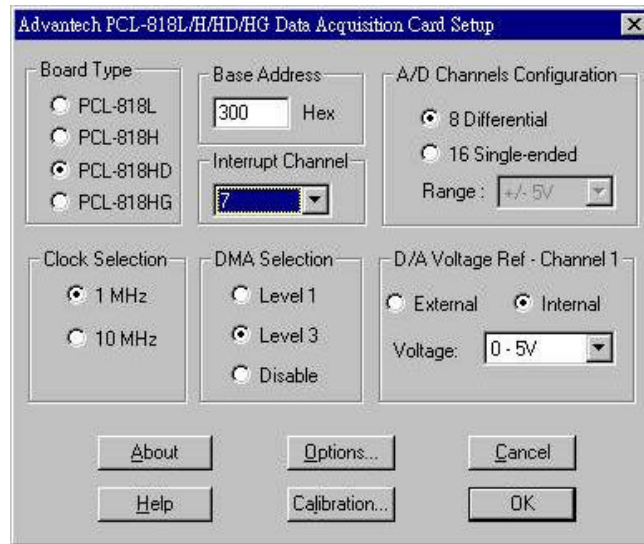

Fig. 2-4 The Device Setting dialog box
Step 3: Scroll down the *List of Devices* box to find the device that you wish to install, then click the **Add...** button. You will see a *Device Setting* dialog box such as the one in Fig. 2-4.
Step 4: On the *Device Setting* dialog box (Fig. 2-4), you can configure the A/D channels configuration either as *8 Differential* or *16 Single-ended*, and specify the D/A voltage reference either as *External* or *Internal*.